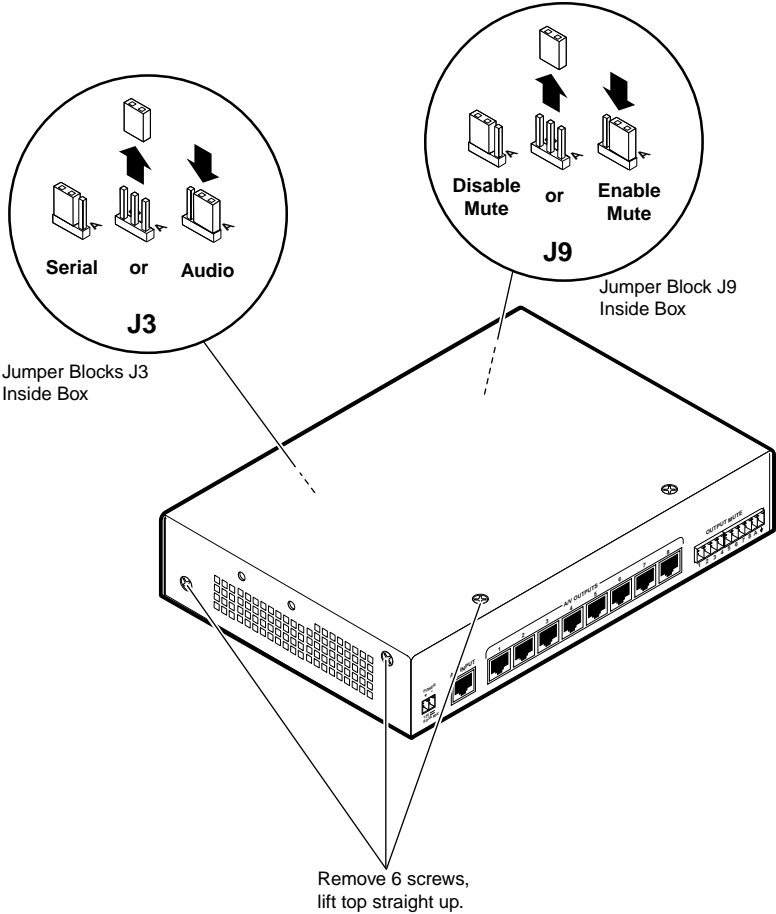

Figure 2 — Opening the DA and termination jumpering
2. Remove the two screws from either side of the DA and the two screws on the top (six screws total) and lift the top cover off of the DA (figure 2).
3. **Select audio or serial distribution** — Locate jumper J3 on the main board and shift the jumper from the audio (A) (rear) to the serial (S) (front) position (figure 2).
4. **Enable or disable audio or serial distribution mute** — If desired, locate jumper J9 on the main board and shift the jumper from the disable mute (S) (front) to the enable mute (A) (rear) position (figure 2).